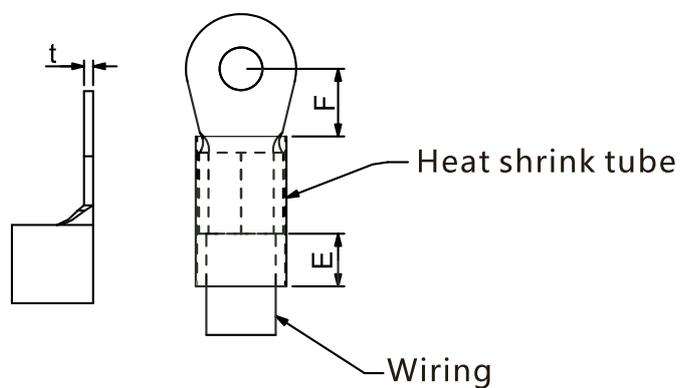

Figure 4-23
- As shown in Figure 4-23, use insulated heat shrink tubing that is resistant to at least 600 VAC to comply with UL and CSA regulations (600 VAC, YDPU2/8).